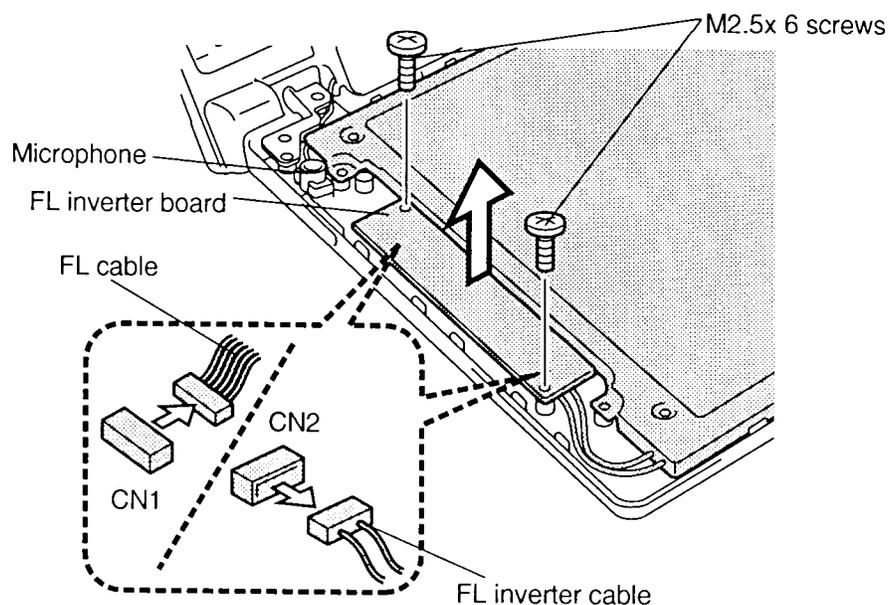

Figure 4-29 Disconnecting the FL inverter board
To remove the T2150CDT's FL inverter board, follow the steps below and refer to figure 4-29.
4. Rotate the FL inverter board out of its seating and disconnect the **FL inverter cable** from **CN1** and the **FL cable** from **CN2** on the **FL inverter board** (figure 4-29).
To install the T2150CDT's FL inverter board, follow the steps below and refer to figure 4-29.
1. Connect the **FL inverter cable** to **CN1** and the **FL cable** to **CN2** on the FL inverter board (figure 4-29).
3. Secure the **FL inverter board** with **two M2.5x6 screws** (figure 4-29).